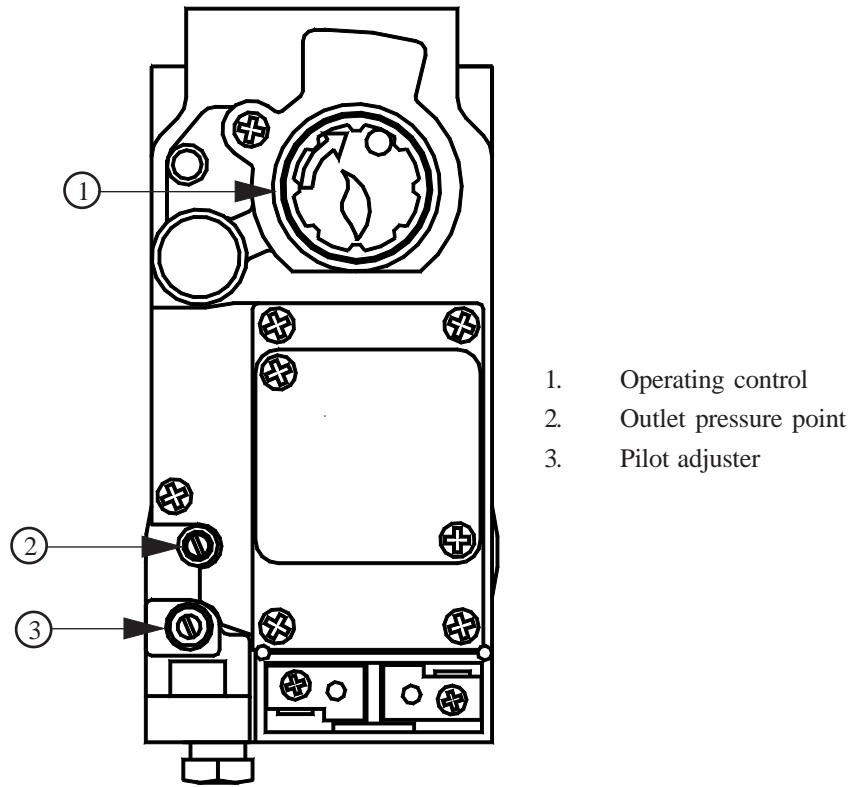

Fig. 5
- 6.3.2 On the Multifunctional Control, remove the Outlet Pressure test point cover, and a fit pressure test gauge (refer Fig. 5)..
- 6.3.4 Referring to Fig .5, press and hold the OPERATING CONTROL, and whilst observing the Pilot Burner, repeatedly press the Piezo igniter button until the Pilot Burner ignites.